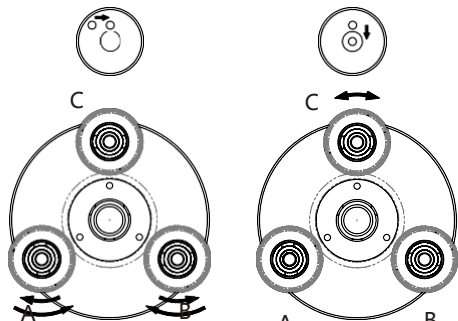

Fig 6
- (1) Extend the tripod legs until top holder is at eye level.
- (2) Tighten screws and stick tripod legs firmly into the grand.
- (3) Set instrument and tighten the centering screw.
- (4) Move bubble to the center of circle by adjusting the footscrews. (figure 6) Adjust A and B screws to move bubble left and right then adjust C screw to move bubble